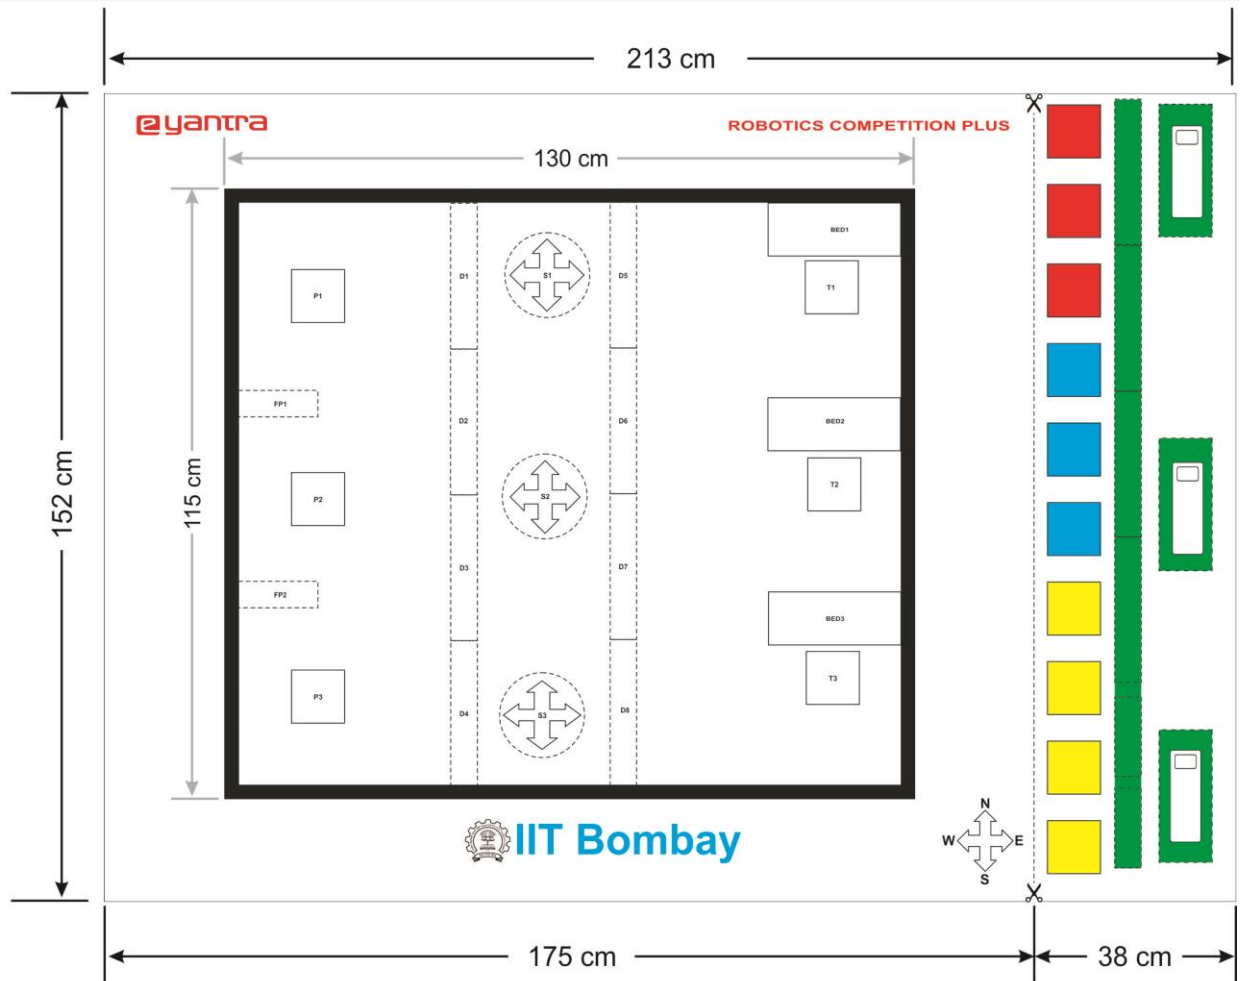

Figure 2: Arena design; Left – Arena section, Right – Marker section
- Arena design is shown in Figure 2. It is divided into two sections,